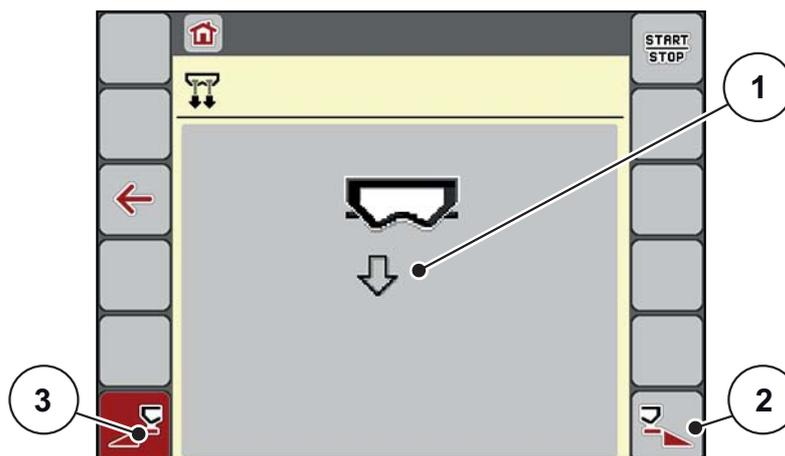

Figure 4.12: Fast emptying menu
- ▷ The selected section width is displayed as a symbol (Figure 4.12, position [2]).